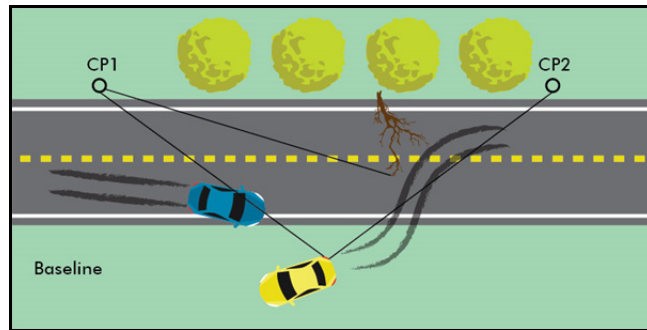

Figure 9
Measure from the feature to the control points and in some cases measure from the control points to the feature. The two control points and the feature form a triangle, and the geometry of the triangle is used to determine X, Y (or X, Y, Z) coordinates for each feature (Figure 9).
- Looking at Figure 9 above, from CP2 the vehicle is blocking the view to the end of the skid mark. From the Measure Menu, the Set New CP2 option redefines CP2 (Page 51), and then continue measurements using the new CP2.